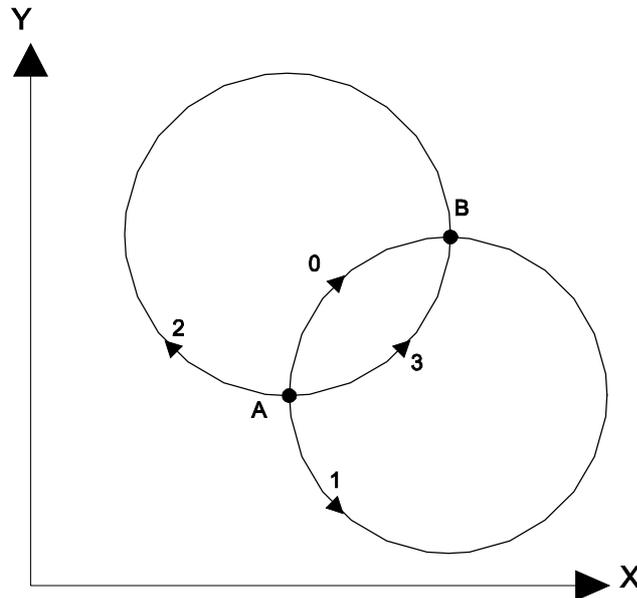

Figure 8-2 : Rotation Modes
"mode-r" parameter of the instruction RAD (see Figure 8-2), associated with instructions CIRR and CIRA, determines on which plane the circle must be created and with which radius. However this instruction becomes unnecessary if the circle follows another circle or a straight line. The program UNIPROG+ can automatically generate the radius and the mode while respecting the contour without angular points.
- the mode specifying one of the 4 possible solutions, see Figure 8-2.